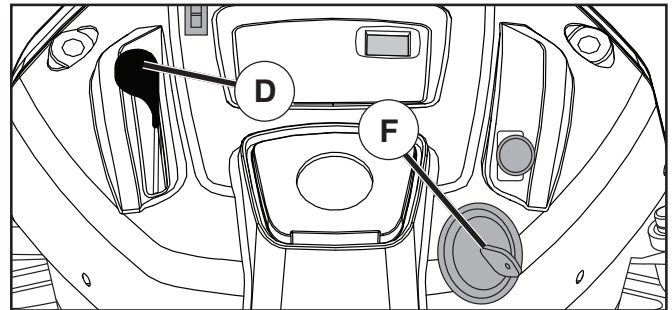

Fig. 9
- Move throttle control (D) to slow position.
- Turn ignition key (F) to "STOP" position and remove key. Always remove key when leaving tractor to prevent unauthorized use.
### TO USE THROTTLE CONTROL (D) (See Fig. 9)